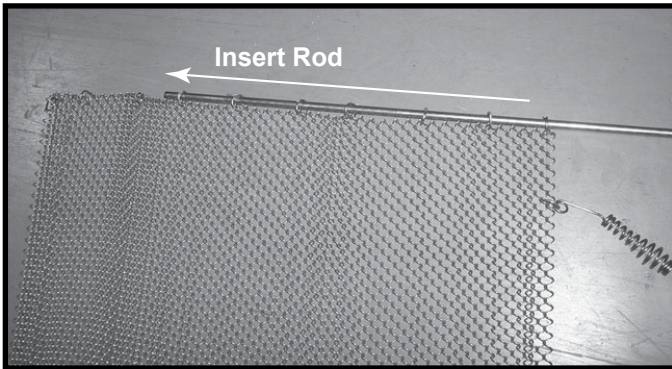

Figure 8.14 Insert Rod into Firescreen
- Insert one screen rod through the rings on top. See Figure 8.14.